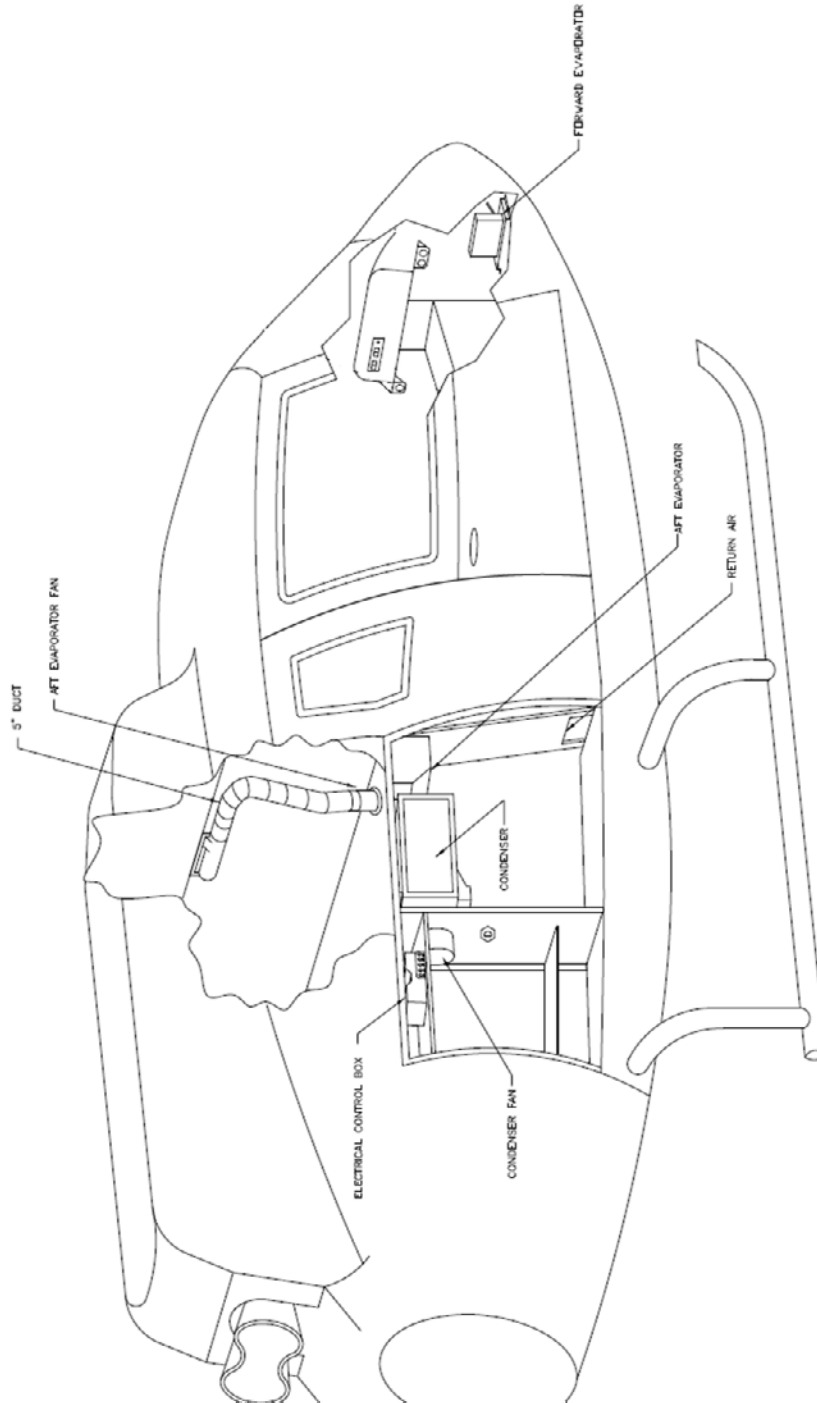

Figure 6-01: Side Mounted Condenser Configuration
a) Access Item Identification (Ref. figures 6-01 & 6-02)
- **Condenser-** The condenser is located in one of two positions depending on kit part number (Ref. Section 21.00.00 System Description). The aft mounted condenser (Kit numbers 350-00-031HP and 130-00-031HP) (Ref. figure 6-02) is mounted in the tail boom mounted 5 in. above the baggage floor and is accessed by removing the tail boom closeout panel. The side mounted condenser is located in the right baggage compartment (Ref. figure 6-01) and is accessed by removing to baggage compartment close out panel.